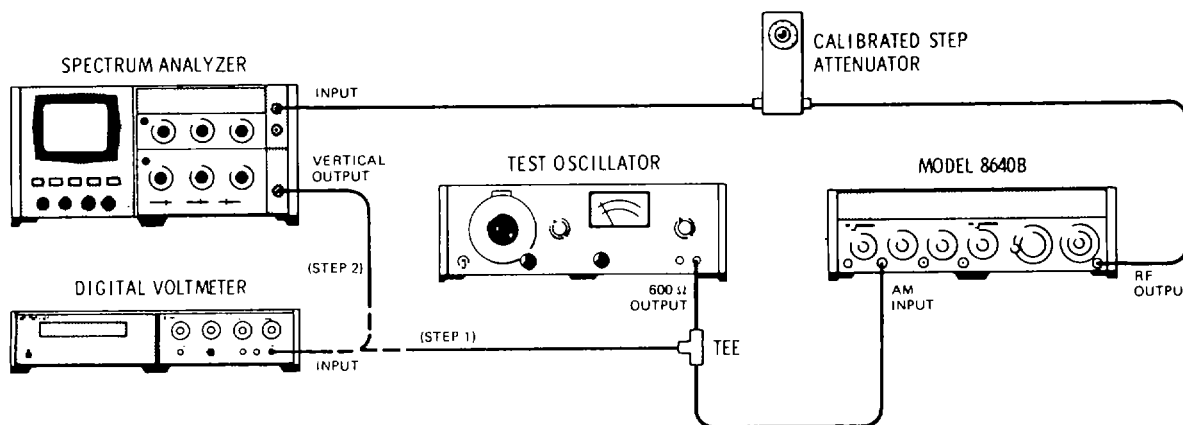

Figure 5-2. AM Sensitivity Adjustment Test Setup
1. Connect equipment as shown in Figure 5-2 after setting Signal Generator's controls as follows: